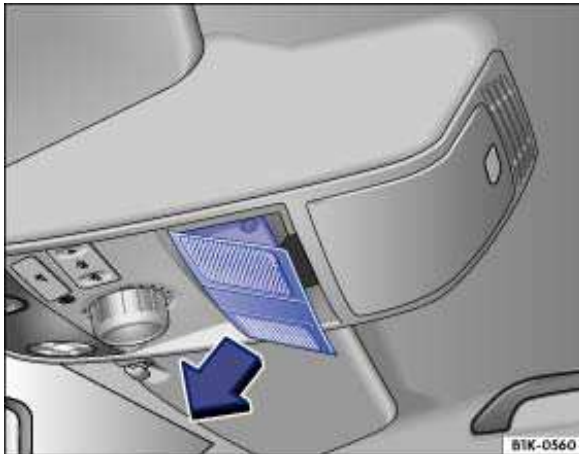

Fig. 199 In headliner: Removing cover.
- Remove the cover in direction of the arrow ⇒ fig. 199.